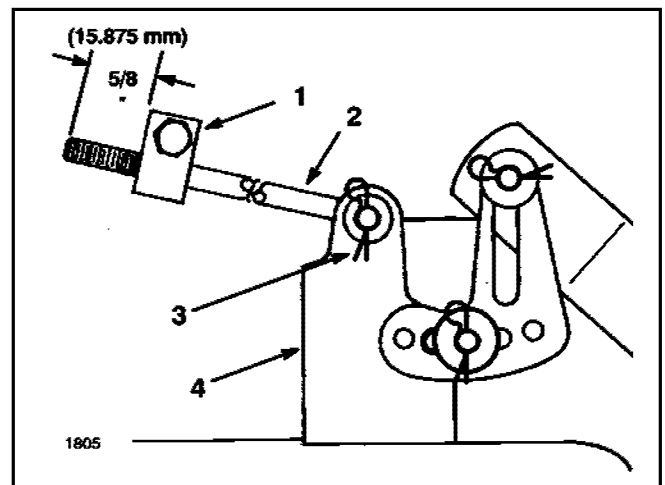

Figure 45 XL44pit1.TIF
- Measure the length of the rod extending out the front of the adjusting block on the sides of the chassis (Figure 45). If the rod length is not 5/8 inch (15.875mm), remove the hairpin cotter and washer from the end of the rod and turn the rod until the 5/8 inch (15.875mm) dimension is obtained. Then install the end of the rod into the hole in the mower mount and secure in place with the washer and hairpin cotter. Repeat this procedure on the opposite side of the mower.